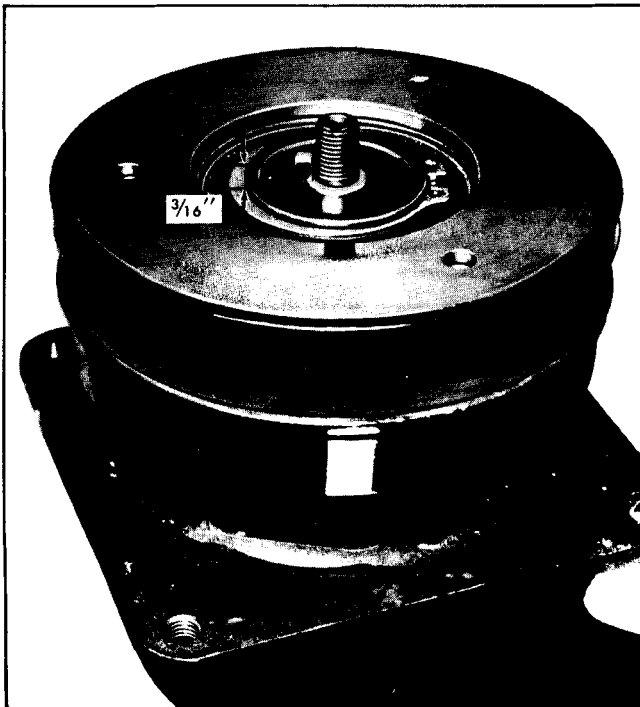

Fig. 1A-64 Proper Position of Hub and Drive Plate Key
7. Install J 9480-01 and press until there is approximately $.002$ " $-.057$ " ($\frac{1}{32}$ " $-\frac{1}{16}$ ") space between the frictional faces on pulley and drive plate (Fig. 1A-65).